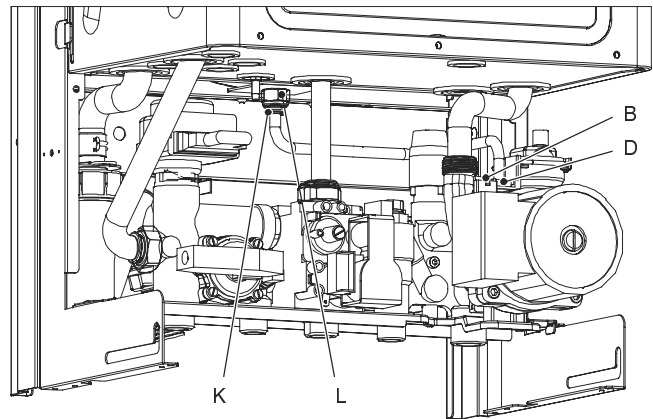

Fig. 13.2
- 2 Completely unscrew the connection *K*, the lock-nut *L* (Fig. 13.2) and remove the expansion vessel from the top of the boiler.